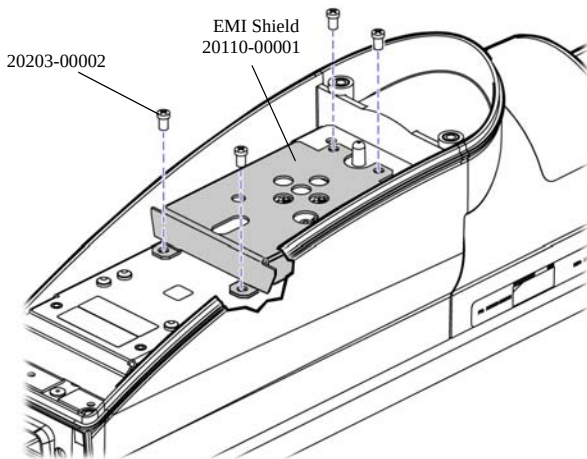

Figure 9-6: Remove or Install EMI Shield
4. Depending upon revision, use a 2mm or 2.5mm wrench to remove the four (4) M3 x 6 button head cap screws holding the electromagnetic interference (EMI) shield to the UIC. See Figure 9-6.
3. Seat EMI shield on UIC. Thread (4) cap screws (20203-00002) through holes in EMI shield to pivot base. Using 2.5mm 6-lobe wrench, drive each screw and torque to 2.6 N-m. See Figure 9-6.